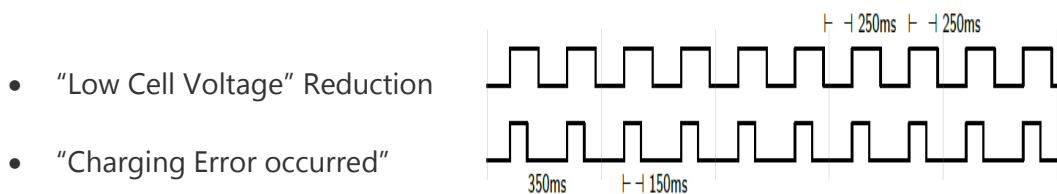

Figure 2.12 Sound indicator timing
- Pulse patterns are shown in the Figure 2.12 Sound indicator timing.